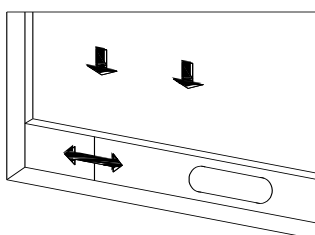
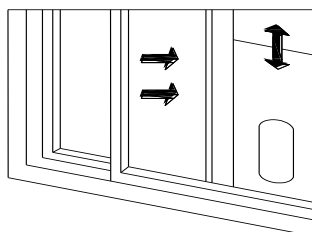

Figure 2
Figure 3
- 1) Half open the window ,and mount the window sealing plate assembly to the window (as shown in Fig.2 and Fig.3).Components can be placed in horizontal and vertical direction.